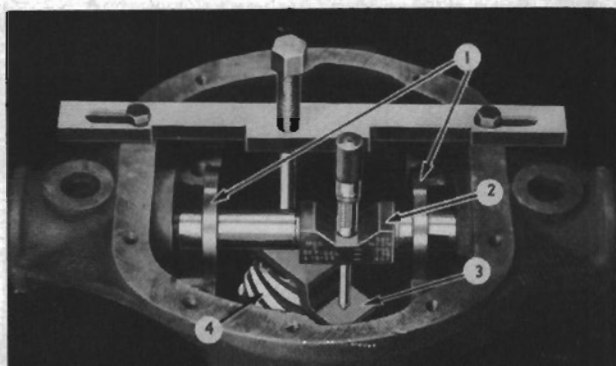

FIG. 11
PINION SETTING — To determine the proper setting of the pinion, using Pinion Setting Gage Set J-589-D, first make sure that the pinion bearing, cone, and shaft, the fixture, and the side bearing seats in the axle housing are perfectly clean. Fasten the bar of the gage set to the axle housing with two rear cover screws (see Fig. 11), and adjust the hold-down bolt so that it holds the Step Plate J-589-10-2 (3) tightly against the ground surface of the pinion (4). Make sure that the step plate is flat on top of the pinion. Place the